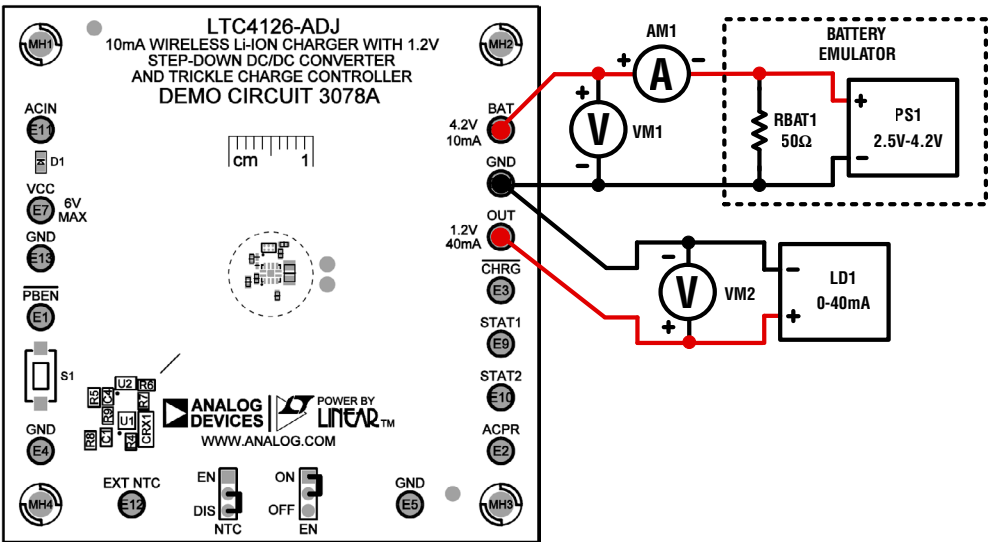
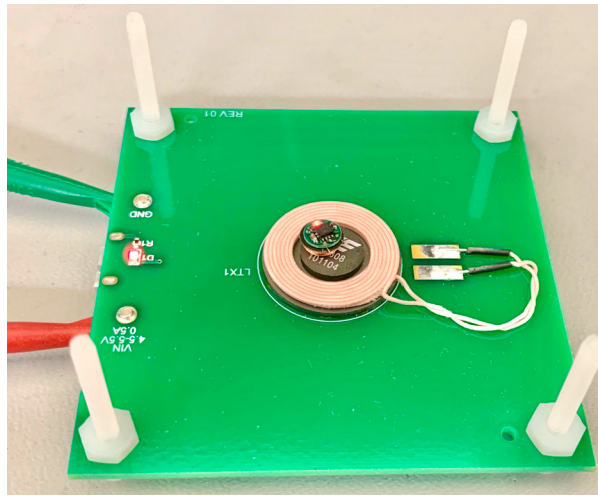

Figure 9. Test Setup for DC3078A Receiver
Figure 11. Test Setup for DC3079A 6mm Application-Sized Receiver
Refer to Figure 9 and Figure 11 for the proper measurement equipment setup and follow the procedure below:
1. Connect a voltage source PS1 and a 50Ω resistor RBAT1 between the BAT and GND turrets of the DC3078A as shown in Figure 9. PS1 and RBAT1 make up the battery emulator. Typical power supply cannot sink current. By adding a resistor across the power supply inputs that draws more current than the maximum battery charge current, the power supply only sources current at all time. Connect a voltmeter VM1 to measure the BAT pin to GND voltage. Connect an ammeter AM1 to measure the charge current to the battery emulator.